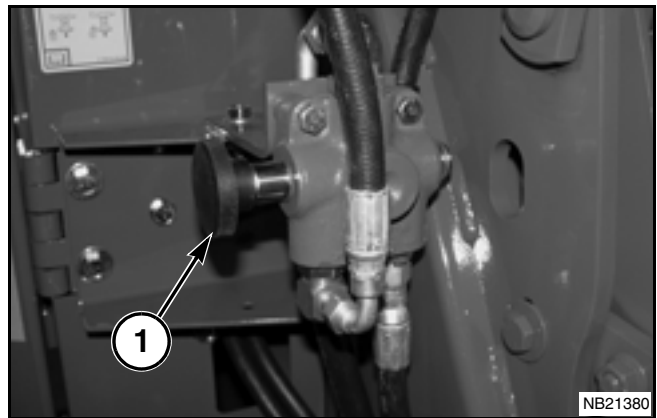

FIG. 42
FIG. 42: When the tailgate is raised for any maintenance or service work, push the lockout valve (1) into the LOCKED position. This prevents the tailgate from being lowered. The tailgate can only be lowered when the tailgate lockout valve is released (pulled out).